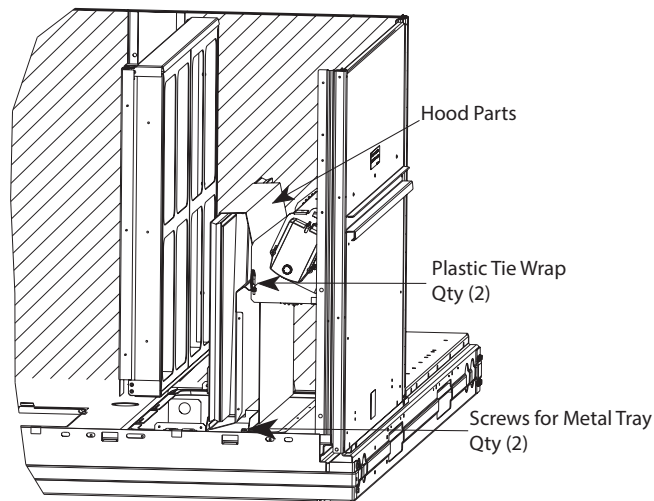

Fig. 12 — Economizer and Two-Position Damper Hood Parts Location
Locate the carton containing the outside air hood parts; see Fig. 12 on page 13. Do not remove carton until unit has been rigged and located in final position.
2. Locate the (2) screws holding the metal tray to the basepan and remove. Locate and cut the (2) plastic tie-wraps securing the assembly to the damper. (See Fig. 12.) Be careful to not damage any wiring or cut tie-wraps securing any wiring.